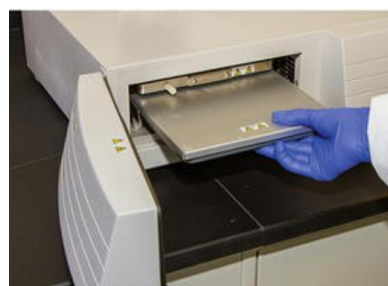

Figure 54: Incubate overnight at 37°C
10. Close hybridization chamber, insert tray into oven, and clamp tray into place. **Incubate at 37°C overnight** (16 – 18 hours) (Figure 54).